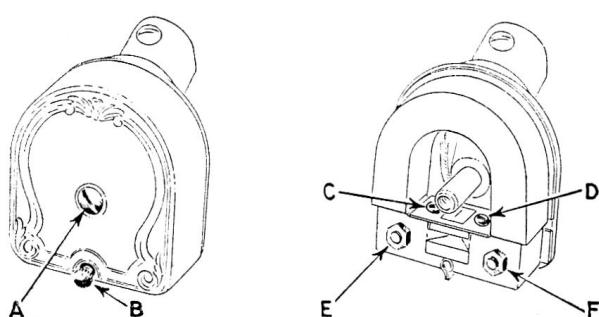

Figure 5—Disassembling the magnetic pick-up
- (a) Remove screws A and B (See Figure 5) from the pick-up, and remove the cover thereby released.
- (b) Mark the magnet poles and the pole pieces so that when they are replaced they will be in their original position. The magnet may now be released. Place a keeper such as a large nail across the magnet poles and remove the magnet from the pole pieces. Another way is to slide the magnet over the pole pieces, until it is on the opposite side of the armature adjusting screws. (See Figure 5.)
- (c) Unsolder the leads to the coil at the terminal strip inside of the pick-up case. Remove nuts E and F, Figure 5, and release the pole pieces from the back support. Now remove screws C and D and disassemble the pole pieces, armature and coil. The old rubber should be completely removed from all parts, and the parts should be scraped clean with a knife.